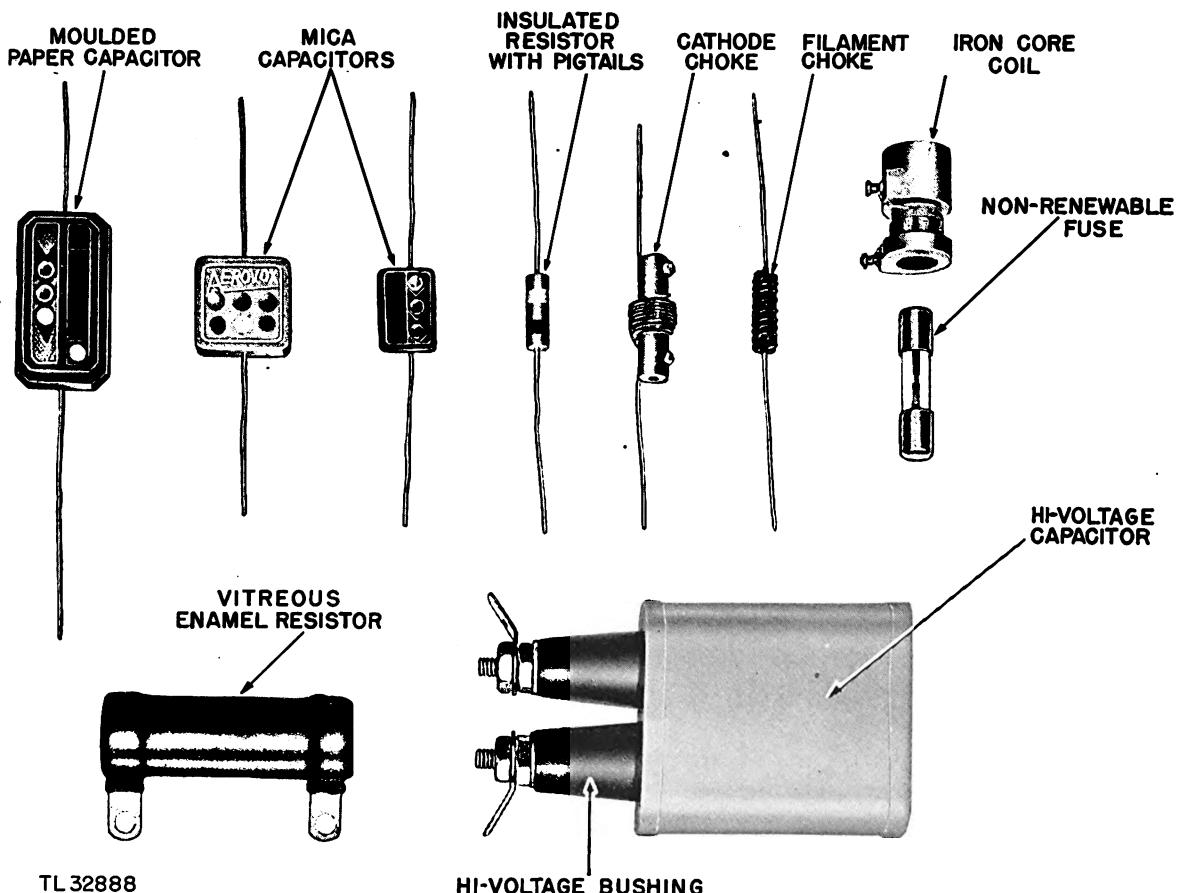

Figure 5. Common maintenance items.
c. Inspect. The coating of the vitreous resistors must be examined for cracks and chipping, especially at the ends (fig. 5). Look for blistering and discoloration which indicates overheating of all types of resistors. Look for arc pits. Inspect the leads, brackets, and all connections for corrosion, dirt, dust, and looseness. Look for broken strands in the connecting wire. Check for security of mountings. Do not attempt to move resistors with pigtail connections because there is danger of breaking the connection at the point where it enters the body of the resistor. Such defects cannot be repaired. Inspect the connections of the pigtail resistors for proper soldering.
- (1) All dirty or corroded connections of resistors should be cleaned with a brush or cloth dipped in carbon tetrachloride. Vitreous resistors must be kept clean to avoid flash-over or leakage between the terminals. They should be wiped with a dry cloth, and if a dirt deposit is unusually hard to remove, try using carbon tetrachloride.
- (2) Discolored resistors cannot be cleaned. Slight discoloration of the resistor body at the center is normal. However, excessive discoloration is indicative of overloading at some time prior to the inspection. The overloading frequently is due to some circuit trouble which requires an analysis. Such analysis is detailed in the Service Manual TM 11-1540.
- (3) Resistors with pigtail connections should be cleaned with a small brush.
- (1) Fuses are small strips of metal with a low melting point. They are inserted in series with an electrical circuit to open it when the amount of current exceeds a prescribed value (fig. 5). Fuses protect equipment against overload and damage. The type of fuse used in Radio Set AN/TPS-3 is nonrenewable, and when blown must be replaced. When a fuse blows, an effort should be made to discover the reason for the failure and to correct it before a new fuse is installed.
(2) Non-renewable or one-time fuses (fig. 5) are to be thrown away when blown and replaced with good fuses. The holder and fuse can be unscrewed from its socket. Care must be exercised to see that the contact surfaces of the fuse and socket are kept clean and tight.
- (1) Insulator bushings are used in the high-voltage circuits, and are constructed of ceramic material with a glazed surface. Since an insulator is no better than its surface, deposits of fine substances upon the surface materially reduce the insulation value of the bushing. Therefore, it is important that bushings used in high-voltage circuits be inspected frequently (fig. 5).